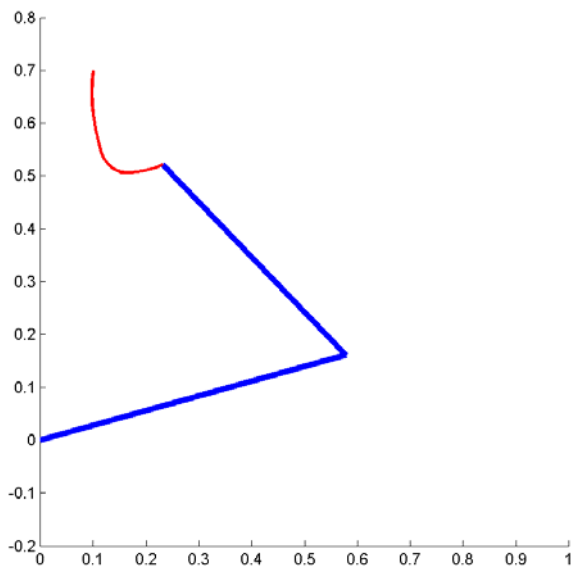

Figure 1: 2-link arm.
- Print-out of the final frame of your animation, showing the final position of the 2-link arm and the complete end effector path. This will look similar to Figure 1, below, except that you should see a full word written out in script, and the arm will be in a different location.
effector, as illustrated in Figure 1, above. Define the lengths of the arm segments, $L1$ and $L2$, near the top of your function. In lab, you will need to measure the actual robot to get the correct values for the true LEGO robot. For this prelab, simply use $L1=0.6$, $L2=0.5$.
- Be sure the axes have a 1:1 ratio and that they are fixed over time. For the prelab, use `axis([0 1 -0.2 .8])`, as shown in Fig. 1. The command "axis image" forces the x and y axes to use the same scaling, so the aspect ratio in your drawing is not distorted.
2. Include a print-out of the final frame of your animation in your prelab. It should look similar to Figure 1, except that the full end effector path should spell a word in cursive handwriting.
3. Consider the region $0 \leq x \leq 1$ and $-0.2 \leq y \leq 0.8$ (i.e., the 1×1 square shown in Figure 1). Sketch (by hand or with MATLAB) the reachable workspace within this unit square for the arm's end effector. What fraction of the 1×1 square can the end effector reach? (MATLAB will be useful for calculating or estimating areas. Try to estimate to within 2 sig figs.)